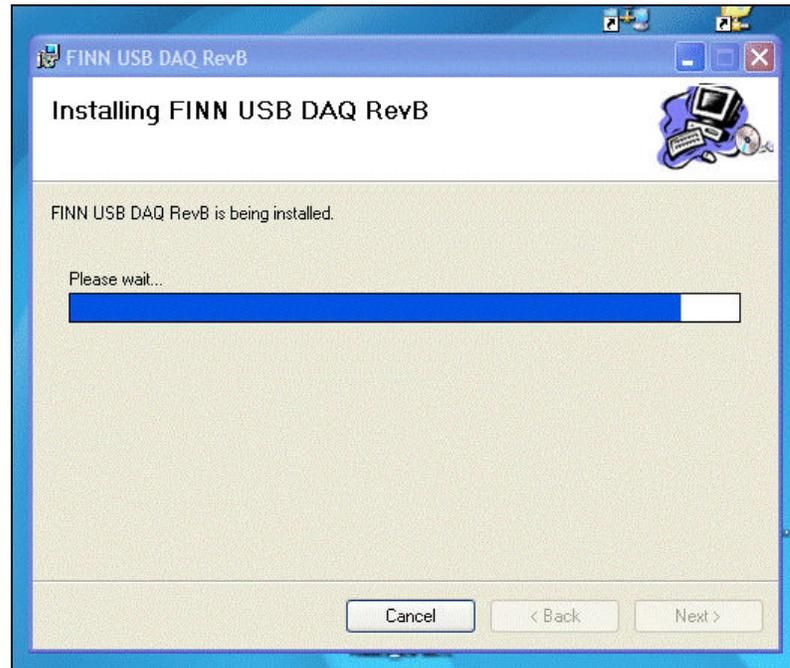

Figure 11
- The software will then be installed. It should take about two minutes depending on the computer speed (Figure 11).